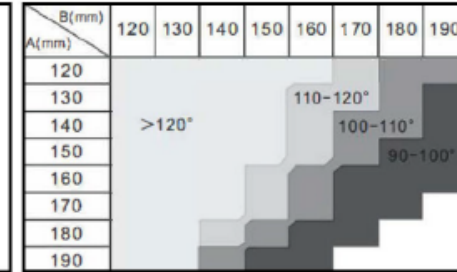

Figure 6
4.3 Using the leaf-opening angle as criteria to make sure all criteria in Figure 6 can be met
- 7) Refer to the distance of "B" in figure 6, place the rear plate in the correct position on the mounting surface. Inspect if the distance is proper as shown in Figure 6 i.e. the position the front plate of the motor to be installed.